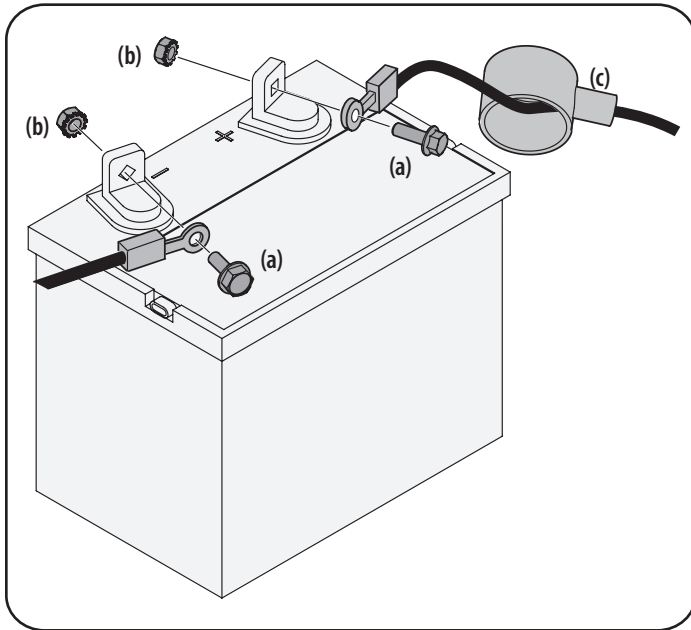

Figure 2
1. Remove the plastic cover, if present, from the positive battery terminal and attach the red cable to the positive battery terminal (+) with the bolt (a) and hex nut (b). See Figure 2.
2. Remove the plastic cover, if present, from the negative battery terminal and attach the black cable to the negative battery terminal (-) with the bolt (a) and hex nut (b). See Figure 2.